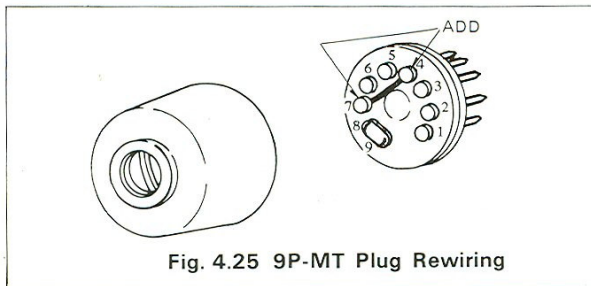

Fig. 4.25 9P-MT Plug Rewiring
7. When the modified TS-820S is to be operated independently, the 9P-MT plug must be installed, with pins "4" to "7" jumpered. (Fig. 4-25)